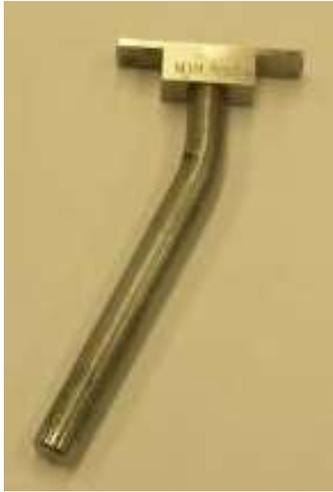

Figure 55
- (a) Install one end of the counterweight Circlip Check Gage, P/N 64892-2 (Figure 55) between the ends of the circlip (Figure 57).